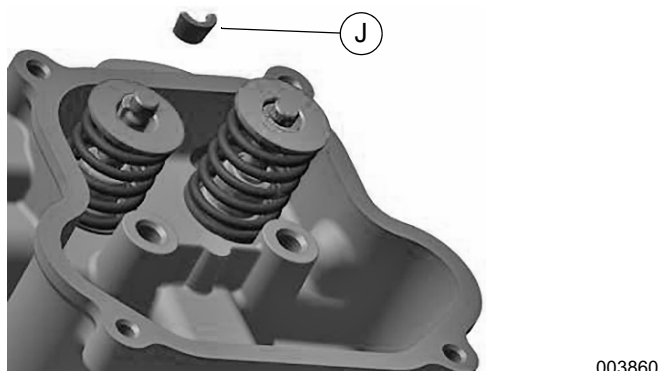

Figure 14-40. Install Valve Spring Keepers
5. See Figure 14-40. Using a valve spring compressor, compress each valve spring assembly enough to allow installation of valve spring keepers (J; two per valve). Verify each keeper inner rib is seated in the valve stem groove and locked in place. Remove valve spring compressor.